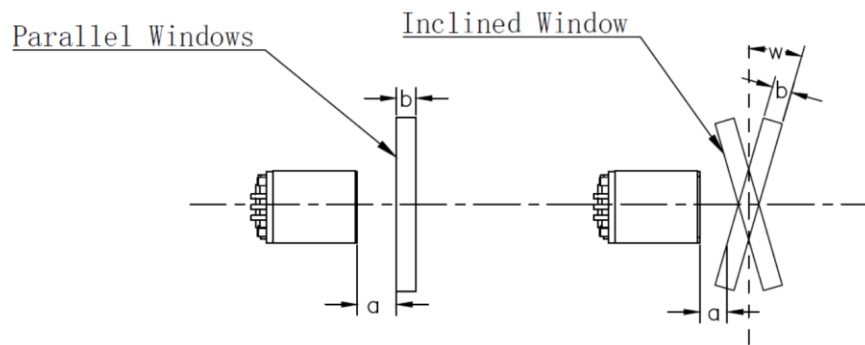

Figure 3-2
- **Parallel window** – Primary option for imagers. The following window distance requirements should be satisfied: The maximum distance is measured from the front of the housing to the furthest surface of the window. In order to reach better reading performance, the distance from the front of the housing to the furthest surface of the window should not exceed $a+b$ ($a+b \leq 3\text{mm}$), as shown in **Figure 3-2**.